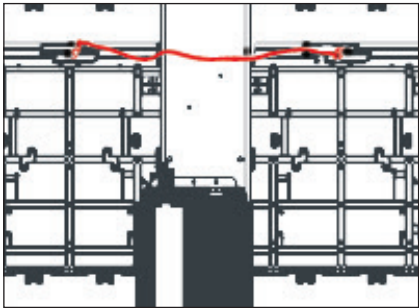
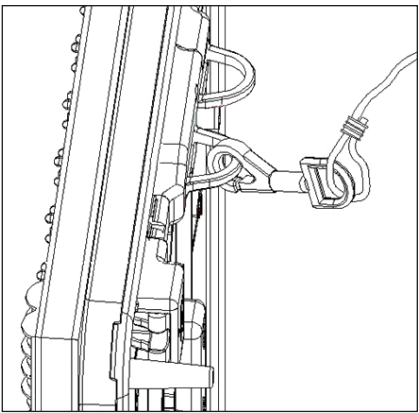

Figure 17: Safety Lanyard
Figure 18: Safety Lanyard
- 3. Pull the module from the display just far enough to reach around to the back of the unit. Attach one end of a safety lanyard to the rings on either the top or bottom of the module and the other end to a secure location within the display to prevent the module from falling if dropped. Refer to **Figure 17** and **Figure 18**.